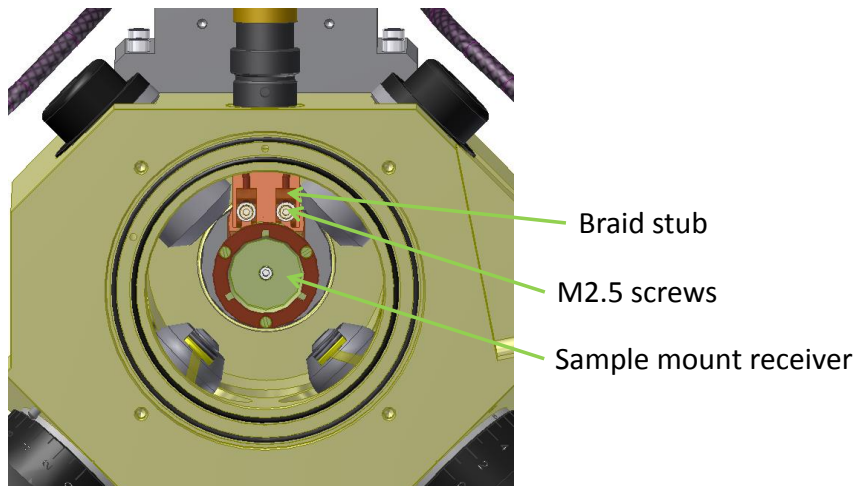

Figure 8-11. Open chamber showing access to cold stage
3. Slightly loosen the two M2.5 screws and washers on the top of the cold conductor assembly. Be careful not to loosen these so far that they are completely removed. See Figure 8-11.
that connect the cold stage heater to the hinged conductor assembly. See Figure 8-11.